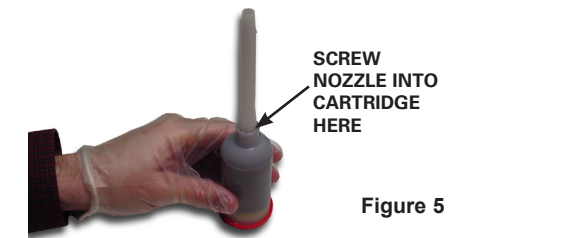

Figure 5
- Screw nozzle onto cartridge where mixing rod was removed. See Figure 5.